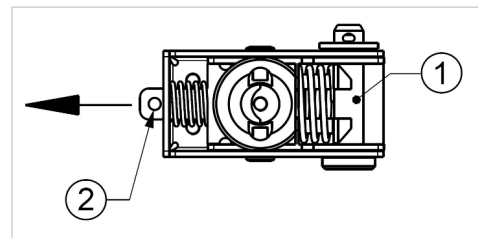

Figure 6: Mounting bolt and manual release
- Manual release: By pulling directly on the tab (Figure 6 ②). A release rope can be attached to the eyelet of the tab for this purpose.
- Locking mechanism including mounting bolt (Figure 6 ①), washer and cotter pin